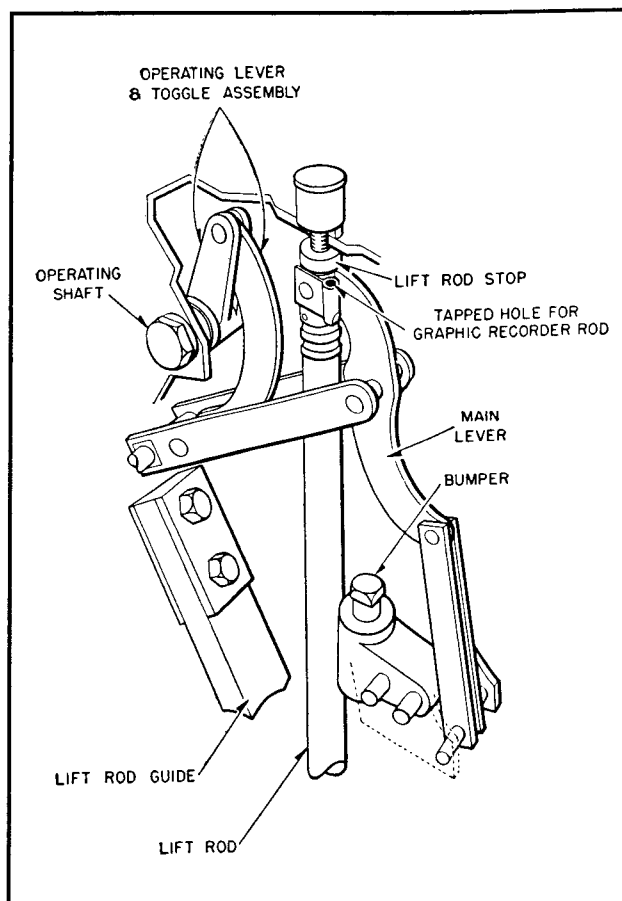

FIG. 3. Pole Unit Lever Assembly of the 15 and 34.5 Kv Breakers
Note: An opening, adjacent to the lift rod stop, is provided in the top of each pole unit lever box. For operating a graphic recorder, a rod is inserted through this opening and screwed into a 10-32 tapped hole in the top of the lift rod. (See Figures 3, 4 and 5.)
4. The pole unit lever assemblies. These are actuated by levers on operating shafts on which the above mentioned pull rods are mounted. (See Figures 3, 4 and 5.)